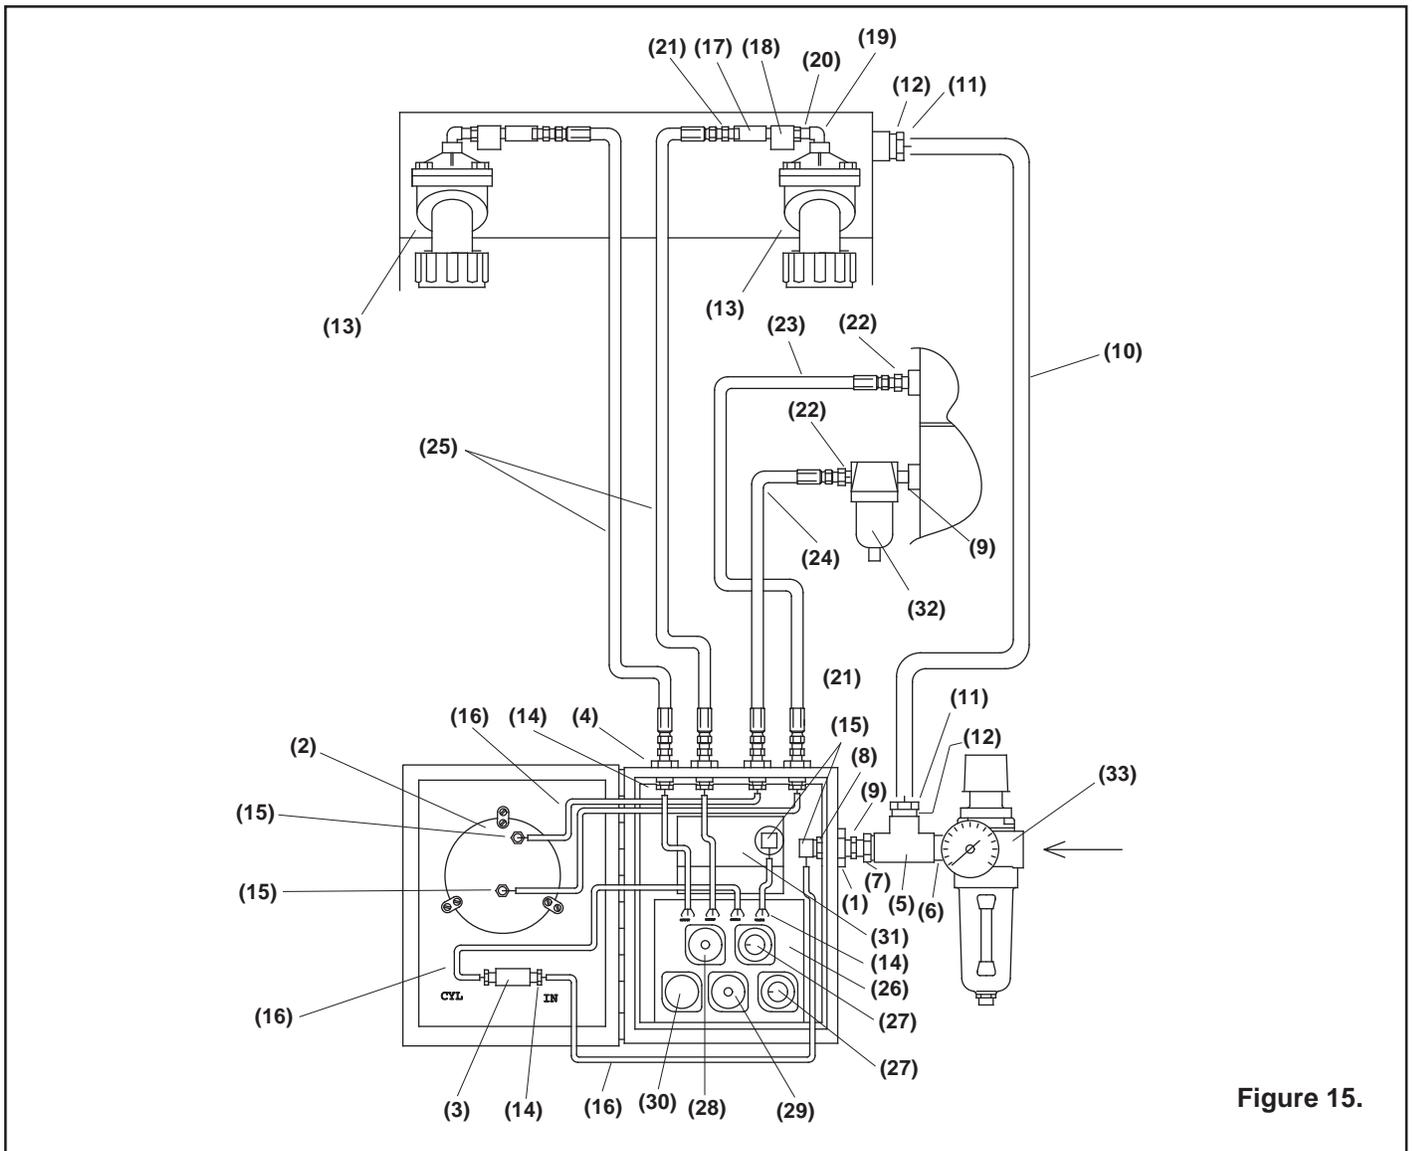

Figure 15.
**9.8 Dust Collector Air Schematic, Figure 15**